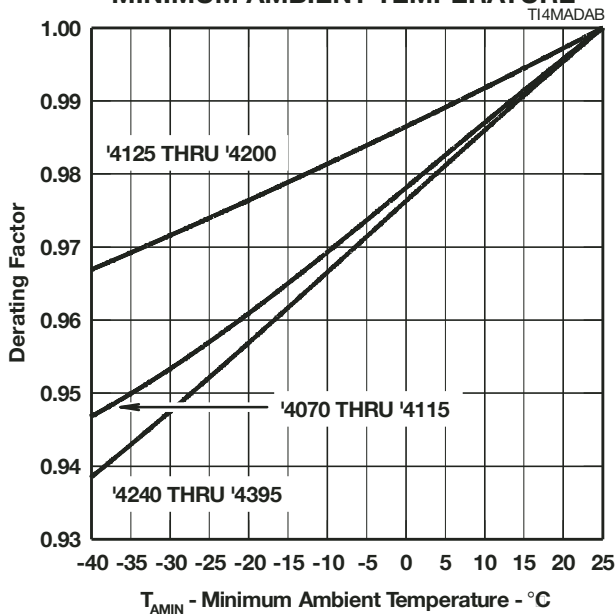

Figure 10.
- NOTES: 1. See Applications Information and Figure 10 for voltage values at lower temperatures.
Figure 10 allows the calculation of the protector  $V_{DRM}$  value at temperatures below 25 °C. The calculated value should not be less than the maximum normal system voltages. The TISP4265M3AJ, with a  $V_{DRM}$  of 200 V, can be used for the protection of ring generators producing 100 V rms of ring on a battery voltage of -58 V (Th2 and Th3 in Figure 17). The peak ring voltage will be  $58 + 1.414 \times 100 = 199.4$  V. However, this is the open circuit voltage and the connection of the line and its equipment will reduce the peak voltage. In the extreme case of an unconnected line, clipping the peak voltage to 190 V should not activate the ring trip. This level of clipping would occur at the temperature when the  $V_{DRM}$  has reduced to  $190/200 = 0.95$  of its 25 °C value. Figure 10 shows that this condition will occur at an ambient temperature of -28 °C. In this example, the TISP4265M3AJ will allow normal equipment operation provided that the minimum expected ambient temperature does not fall below -28 °C.